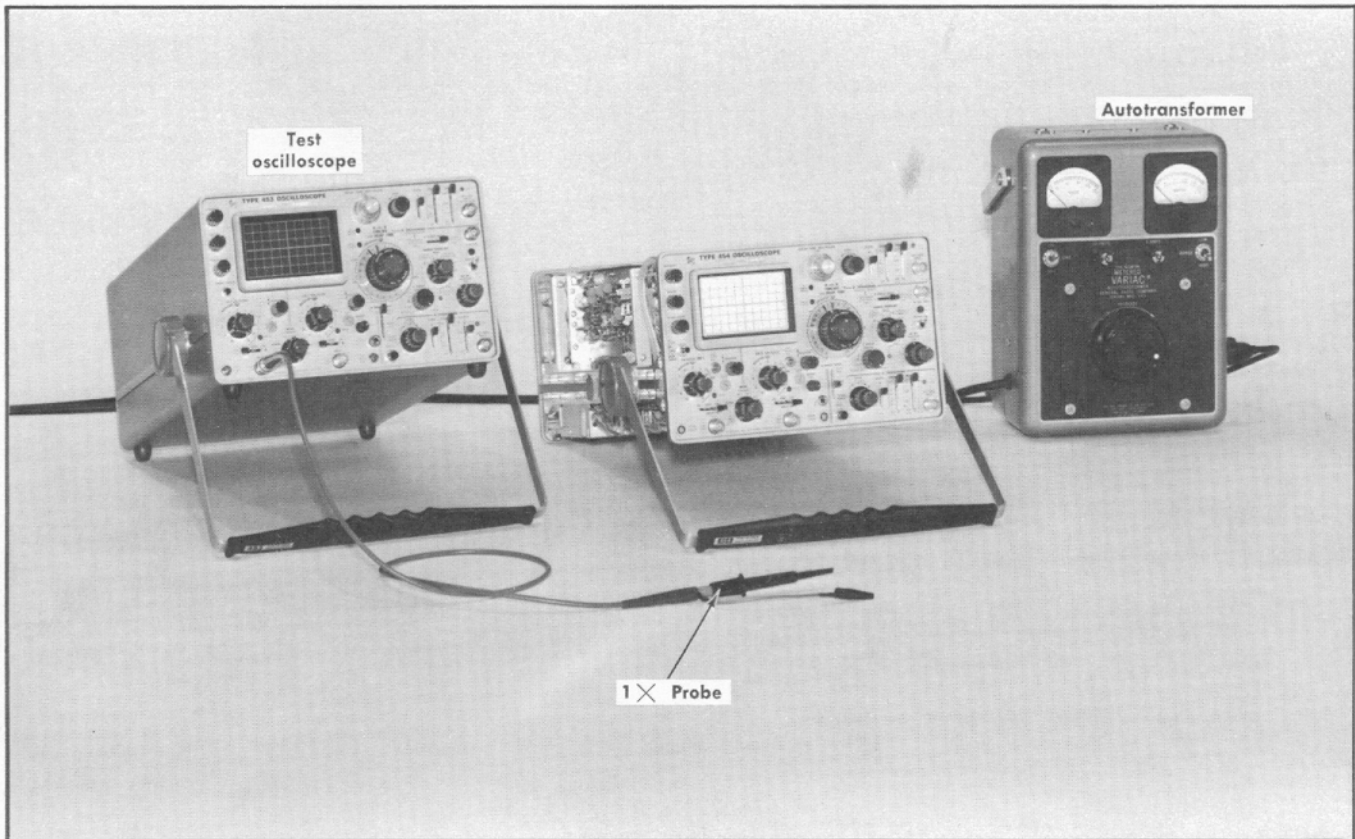

Fig. 6-8. Initial test equipment setup for steps 7 and 8.
a. Test equipment setup is shown in Fig. 6-8.